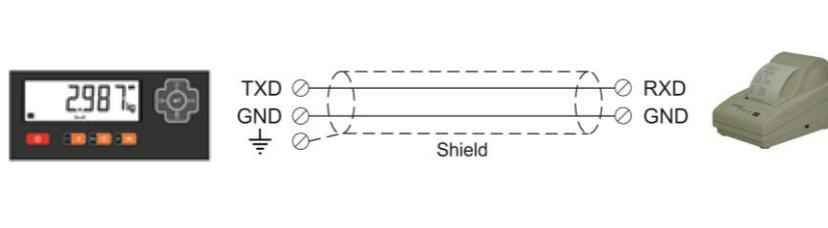

Figure 4.5 – 2 wire RS 232C connection with a printer or PC
**2-wire connection to peripherals:** RS 232C serial connection is done with two wires as indicated below in Figure 4.5. if there is no data entry to the weighing terminal. Typical applications are printer and barcode reader connections.